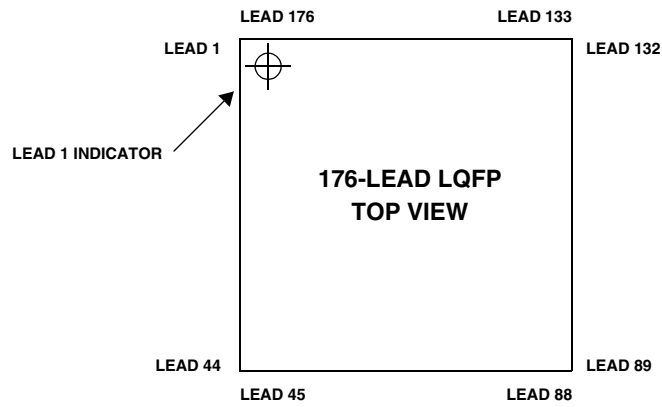
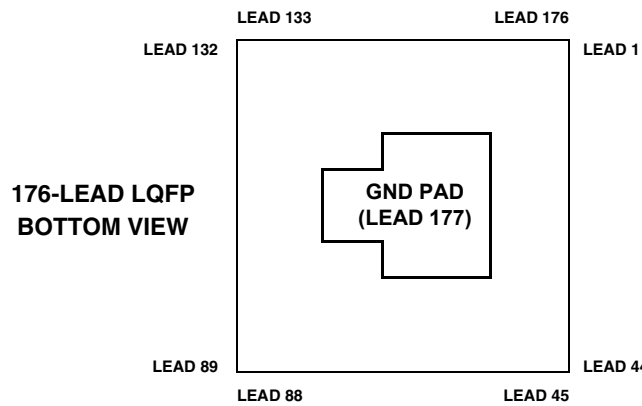

Figure 70. 176-Lead LQFP Lead Configuration (Top View)
Figure 71. 176-Lead LQFP Lead Configuration (Bottom View)
* Pin no. 177 is the GND supply (see Figure 71) for the processor; this pad **must** connect to GND.
Figure 70 shows the top view of the 176-lead LQFP lead configuration and Figure 71 shows the bottom view of the 176-lead LQFP lead configuration.